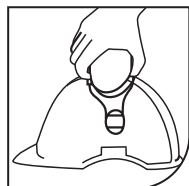

Fig 1
- **Fit the cup:** Push the attachment blade firmly into the slot on the side of the helmet until it clicks into place (Fig 1)